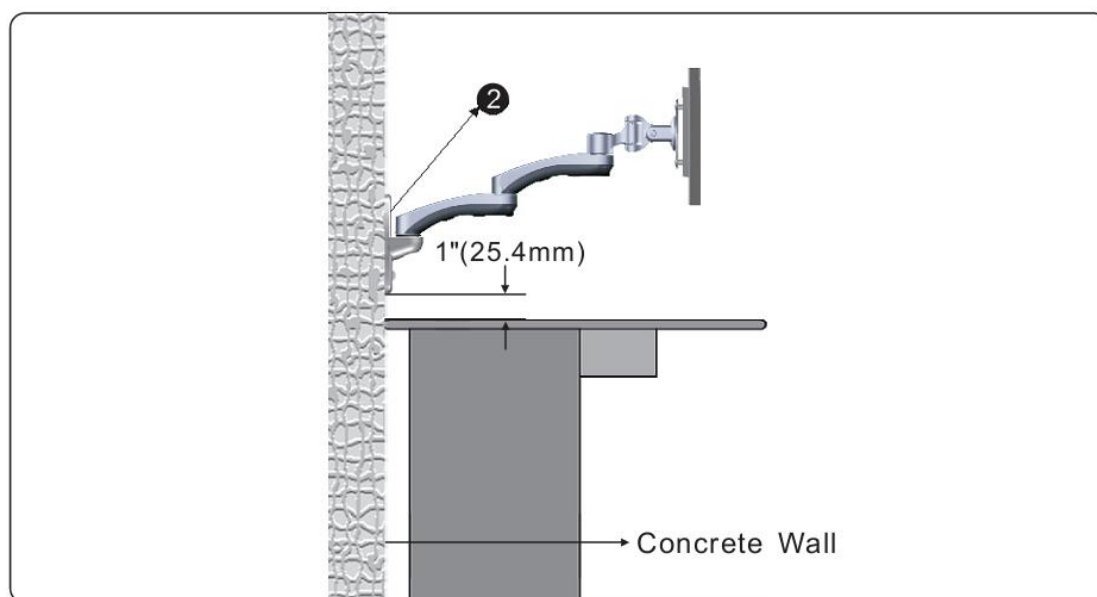

Figure 1-5
1. To determine Wall Plate **(2)** mounting height, add 1" (25.4mm) to the mounting height from the top of the table (**See Figure 1-5**).